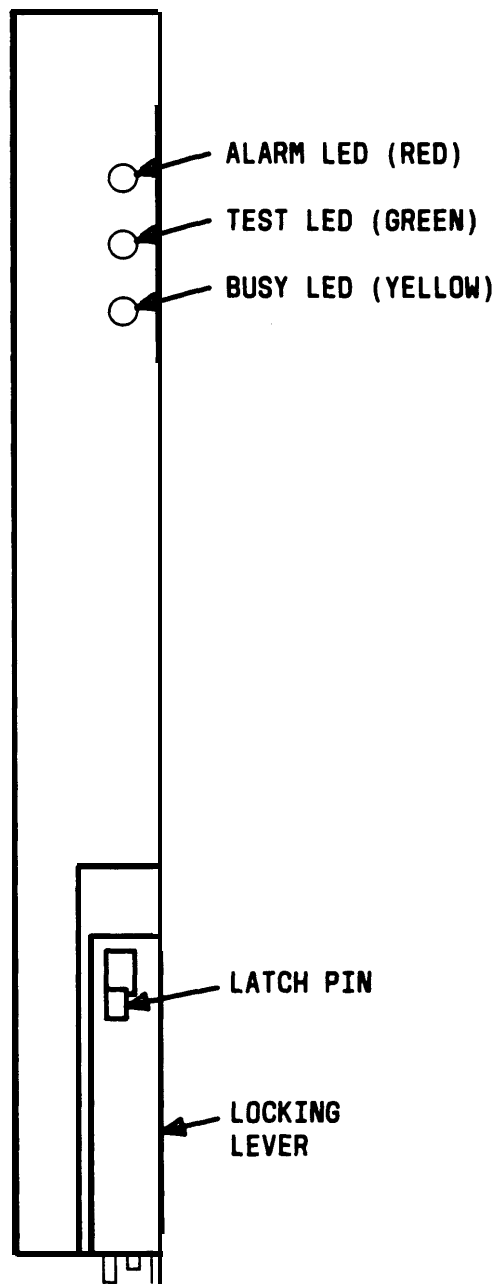

Figure 26. Typical System 75 TN-Coded Circuit Pack—Front View
3. Lift locking lever upward until latch pin engages (Figure 26).